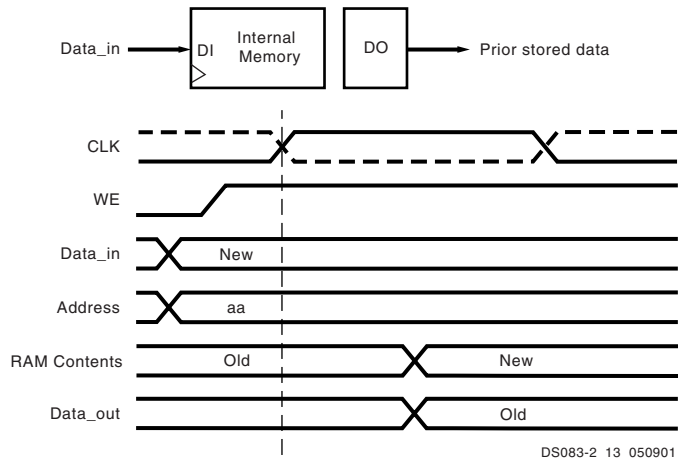

Figure 38: **READ_FIRST** Mode
The same clock edge that writes data input (DI) into the memory also transfers the prior content of the memory cell addressed into the data output registers DO, as shown in Figure 38.